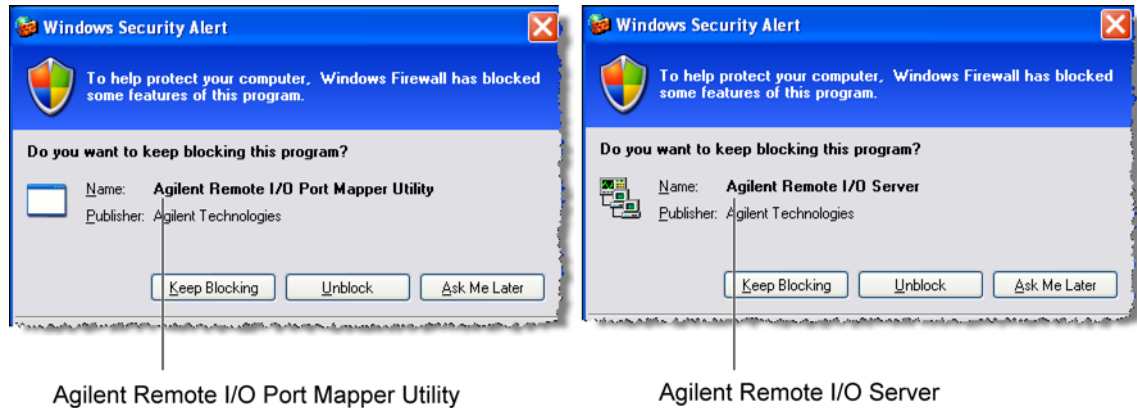

Figure 1 Example Windows Firewall Security Alerts
- 7 If you are prompted by a firewall application to block the Keysight Remote I/O Port Mapper Utility and the Keysight Remote I/O Server, select Unblock as shown in **Figure 1** on page 10. See the introduction to this section for more information.